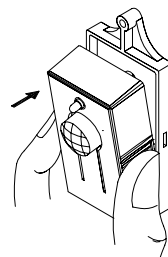
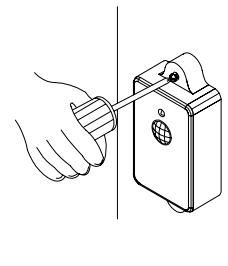

fig 5
fig 6
- ③ Install the Transmitter: Hold the middle parts of Transmitter case (as fig 5). Put this case into wall cap. Be sure these two portions are matched well. Then use screw driver put the cover case of Transmitter on (As fig 6)
- ① Installation for hanging screw: Keep within 150ft distance (in vast field). Find a proper position